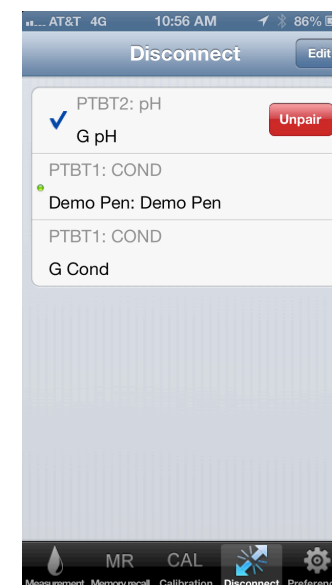

Figure 6
The Connect/Disconnect screen will appear (see Figure 6).
- Refer Figure 6 as a reference for the following instruction.